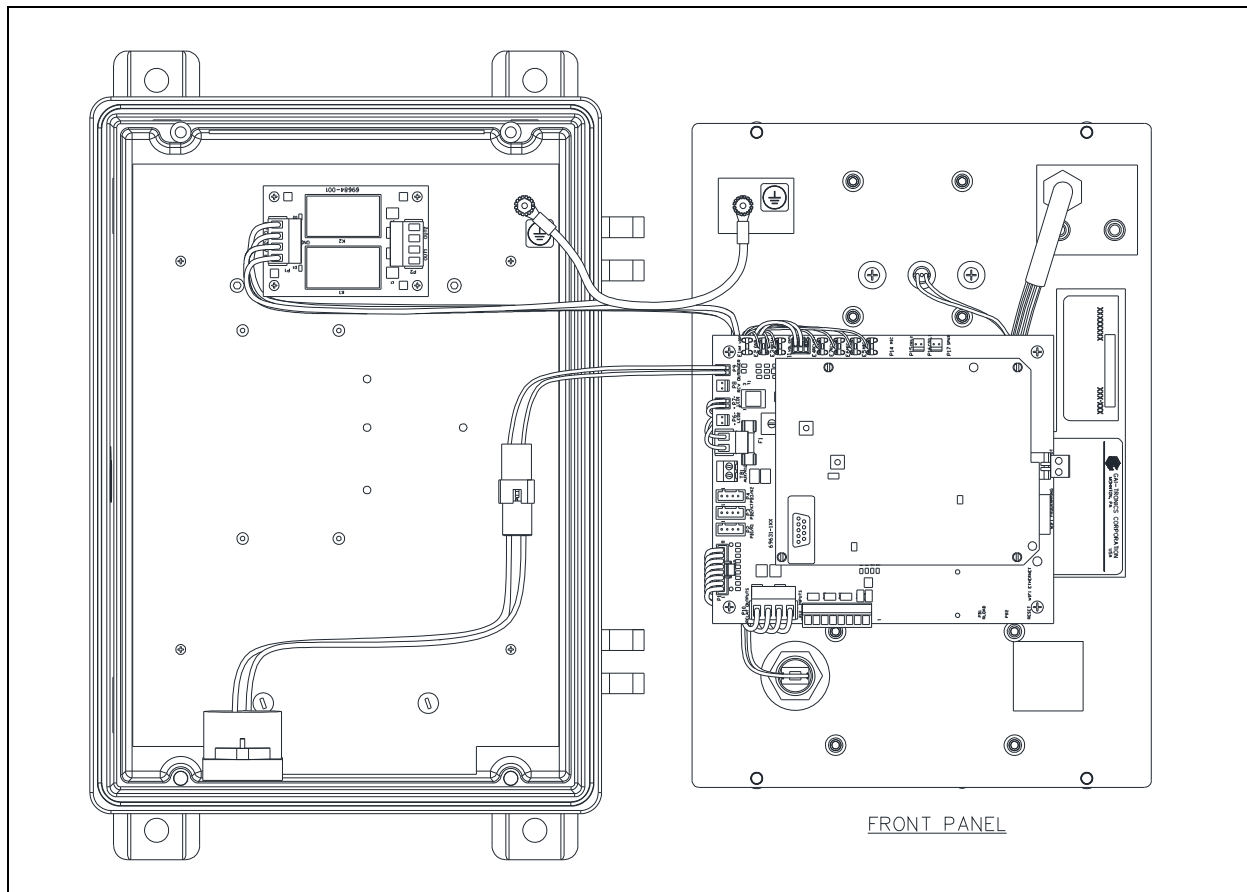

Figure 5. Installation and Maintenance Configuration
1. Remove the four screws from the front panel and turn it to the right so that the interior surface faces you. Allow the wiring to remain connected. The front panel can be hung from the front door by hooking a small piece of wire in the mounting holes of the panel. The front panel interior surface and the back box interior now face you. Refer to Figure 5. This configuration presents the easiest access for troubleshooting and setting adjustments.
Install any additional connections as indicated below. Refer to Figure 5 for wiring details. Refer to Table 4 on Page 9 for the recommended conductor sizes.